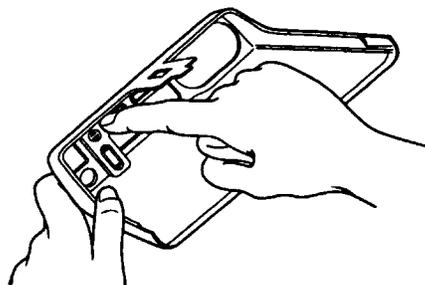

Figure 1-4. Insert Keypad
- Insert the keypad into the housing and press as shown in Figure 1-4. Check to see that all five buttons on the keypad are secured and protruding properly through the housing.